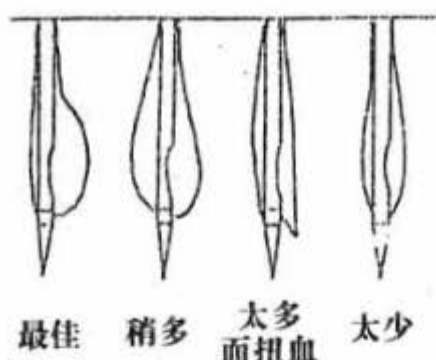

图 10 Fig.11
使针杆回升时线环稳定，防止扭曲而引起跳针。如发现线的捻度大，线环经常逃跑，则必须细心调到上述要求，形成最佳线环，如图 10 所示。
To adjust the height of upper thread (5): When the needle bar is at its lowest position, the thread should be straight, but not too tight. The loop should be stable and prevent stitch skipping from being twisted when the needle bar moves upward. If thread twist is so strong that the loop runs away frequently. Adjust carefully to reach the above requirement, as shown in Fig.10.